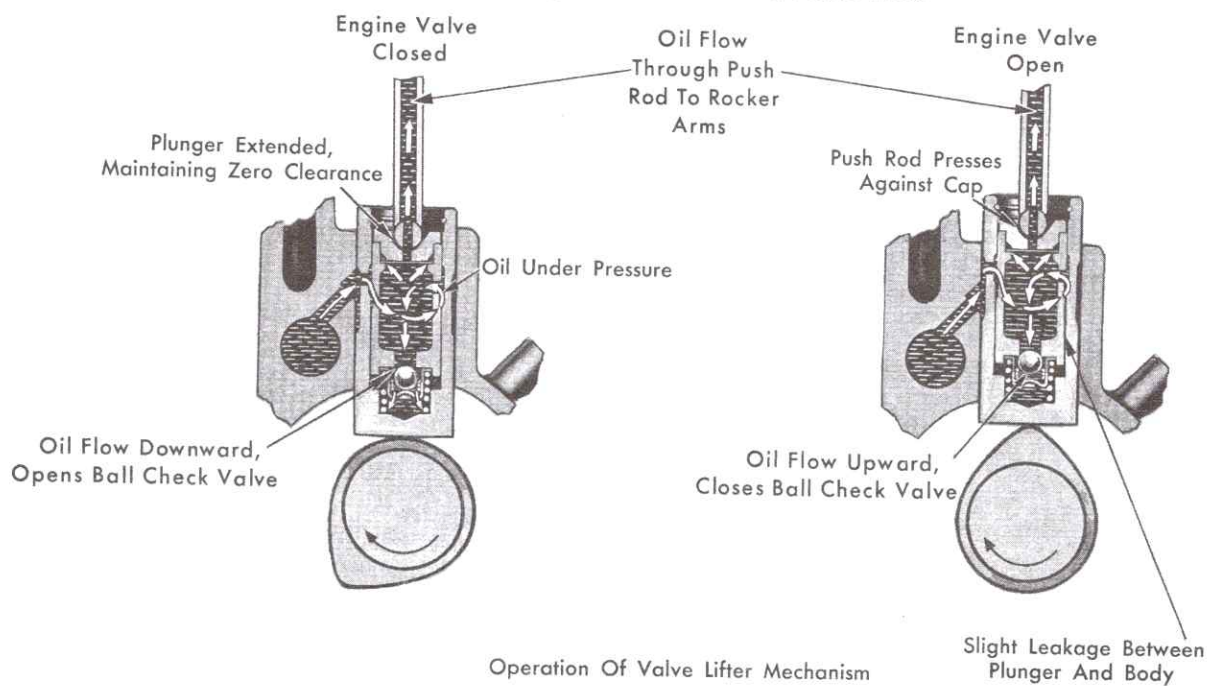

Fig. 6-134 Valve Lifter Mechanism & Operation
4. Incorrect clearance between cylinder and plunger, usually caused by mismatching of parts. These parts are selectively fitted in manufacturing and are not interchangeable, Fig. 6-134.